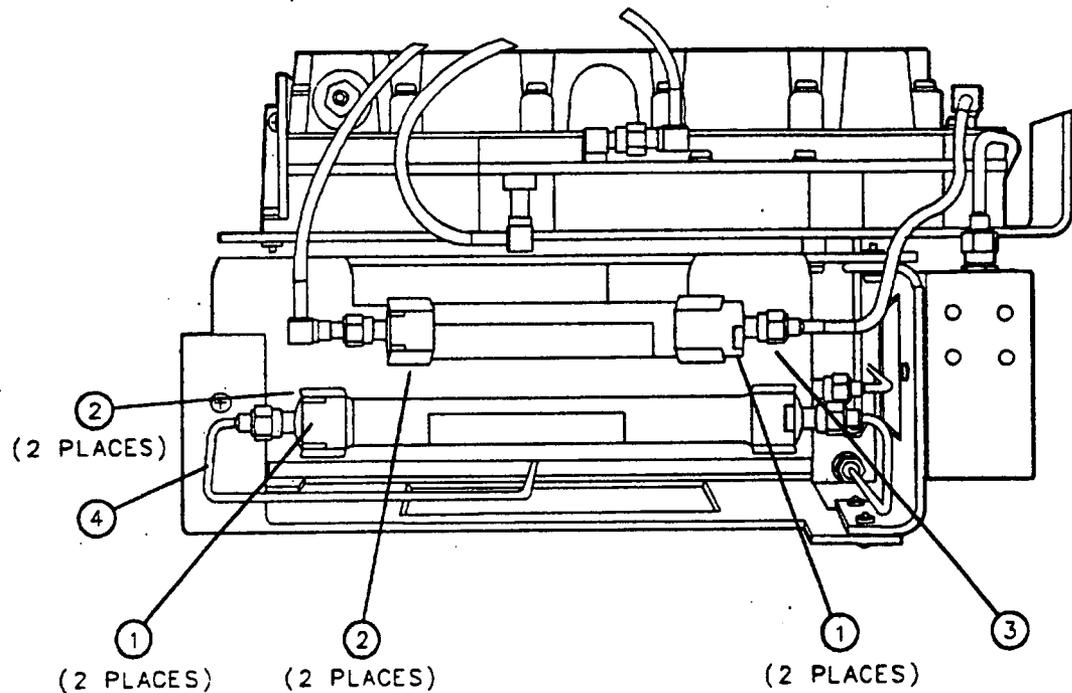

Figure 3-7. A3A3 and A3A9 Filter Replacement
2. Disconnect the cables attached to the filter. Hold one end of the filter (1) in position with a 7/16 inch wrench and loosen the cable connections with a 5/16 inch wrench. See Figure 3-7.
3. Pry the filter from the filter clips (2) attached to the “A” bracket.
- The A3A9 filter connector labeled "INPUT" is connected to W23 (3). See Figure 3-7.
- The A3A3 filter is installed so that the filter label reads from left to right, with the W24 semirigid cable (4) on the left as a reference.
1. Position the filter over the filter clips (2) attached to the A3 Front-End Assembly.